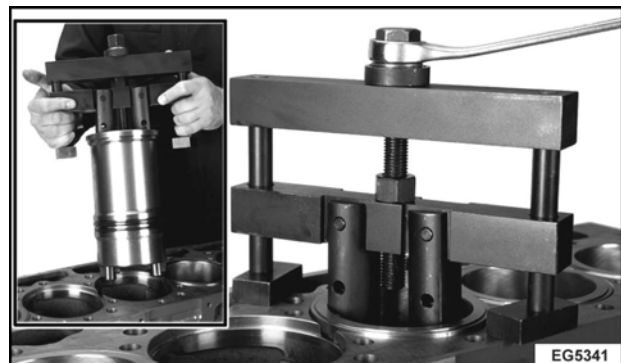

Figure 282 Removing cylinder sleeve from crankcase
1. Position the cylinder sleeve puller in the sleeve and spread the lifting jaws so the tangs grip the bottom of the sleeve (Figure 282).